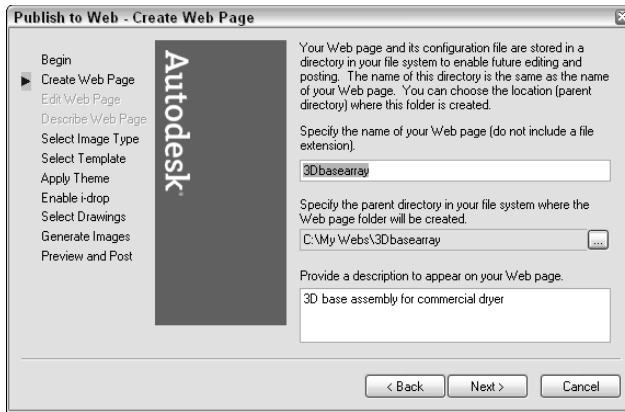

Figure 28-9: On the Create Web Page screen, specify where you want to create your Web page on your own computer system, and create a description of the page.
3. On the Create Web Page screen, shown in Figure 28-9, type a file name for the Web page. (This action creates a folder with this name and places all of the files for the Web page in the folder.) Then click the Ellipsis button (. . .) to navigate to where you want to create this file. If you already store Web page files on your system, you can use the same location. Finally, add a description that will appear on the Web page. Click Next.